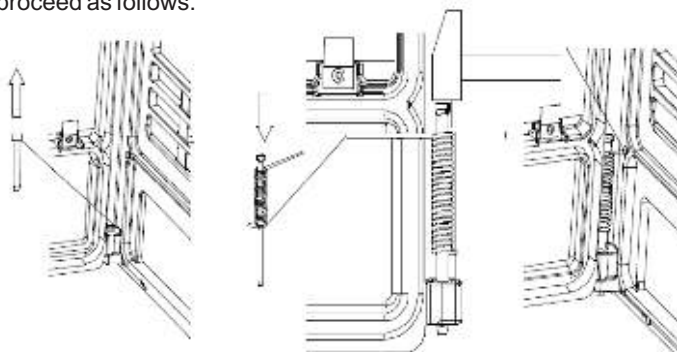

Figure 1.
- Open the door, remove the bolt from the lower hinge, remove the door and insert the pin with the spring in prestressed position (see Figure 1). Reinsert the door on the upper bolt, insert the longer end of the spring into the hole on the front frame and install the pin in the lower eye on the front frame (103).